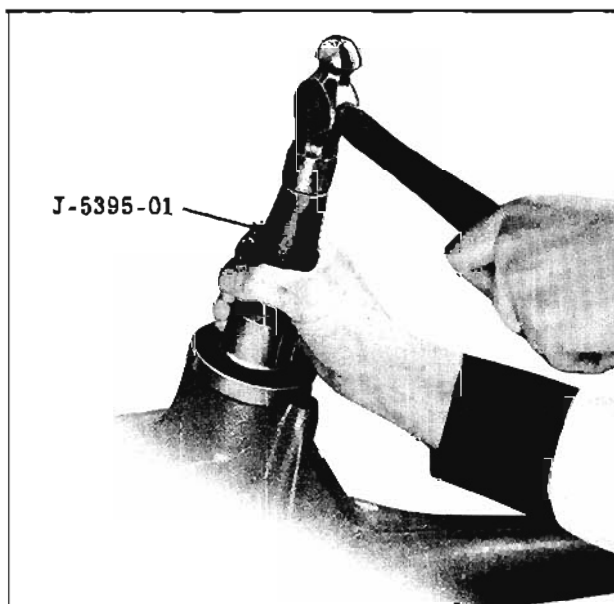

Fig. 10-128 Pinion Oil Seal
3. Install pinion oil seal in carrier. Install seal by using Installer J-5395-01. (Fig. 10-128)